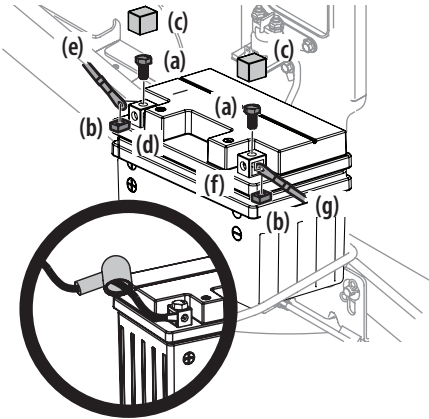

Figure 14
1. Remove the hex screws (a) and square nuts (b) located either on the end of the wiring harness or in the bag with this manual. Retain the hardware for later instructions. See Figure 14 on page 11.
2. Remove the plastic cover (c), if present, from the positive battery terminal (d) and attach the red cable (e) to the positive battery terminal (d) with one of the hex screws (a) and square nuts (b), from Step 1. Use a Phillips screw driver. See Figure 14 on page 11.
- Remove the plastic cover (c), if present, from the negative battery terminal (f) and attach the black cable (g) to the negative battery terminal (f) with the remaining hex screw (a) and square nut (b). See Figure 14.
- Position the red rubber boot over the positive battery terminal to help protect it from corrosion. See inset in Figure 14.